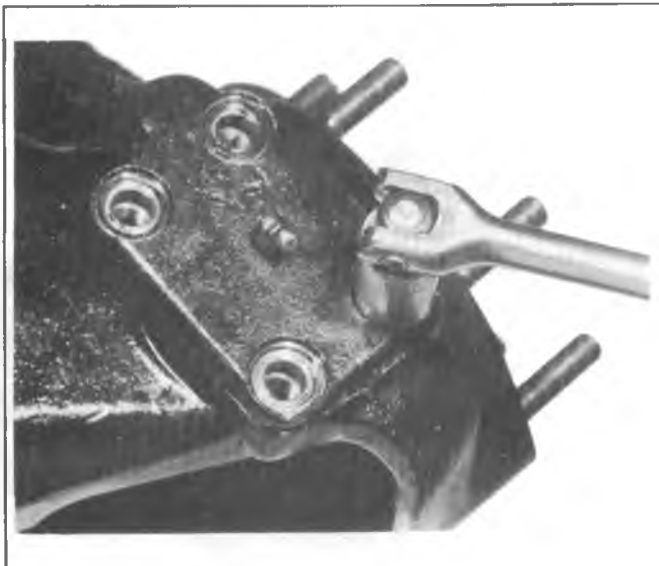

Fig. 3C-20K--Removing Lower Bearing Cap
- between axle shaft joint assembly and bearing. If wear is evident, replace with a new one. See Figure 3C-17K.
2. Remove four nuts from upper king pin cap. Remove nuts alternately as compression spring will force cap up. Refer to Figure 3C-18K.